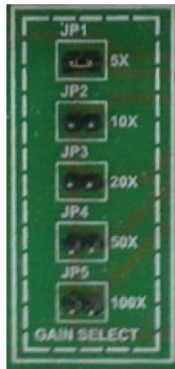

Figure: 2
- 3 For 100x gain (refer to Fig 2), note down DMM voltage by varying weights. Plot voltage vs weight. What is the sensitivity (in mV/gm) of the sensor
- 4 The weight machine has a load cell giving a differential output to an instrumentation amplifier made up of discrete op-amps (refer to the circuit diagram in the load cell manual). The gain of the instrumentation amplifier can be adjusted to take 5x, 10x, 20x, 50x, 100x by plugging the suitable jumper (JP1-JP5, refer to Fig. 2) . Can you identify how gain is being changed? What happens when 2 jumpers are connected